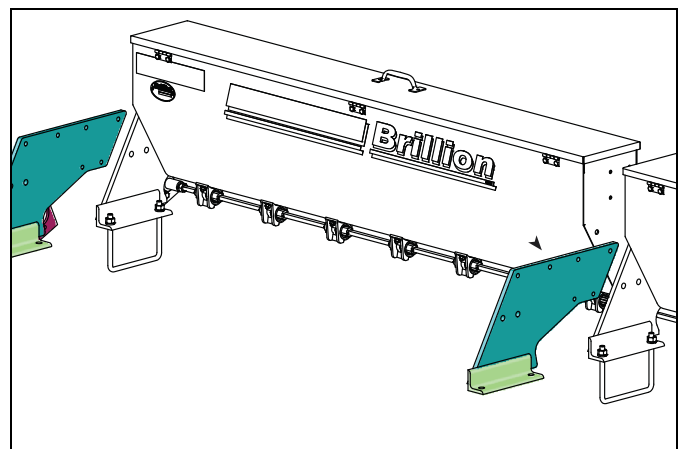

Figure 2-32: U-bolts
3. Loosen U-bolts which fasten front seed box to frame at center and right end. Replace center and right end support brackets with extended supports which also have holes for mounting a 2nd box (part 9K853 and 9K854). See Figure 2-32.